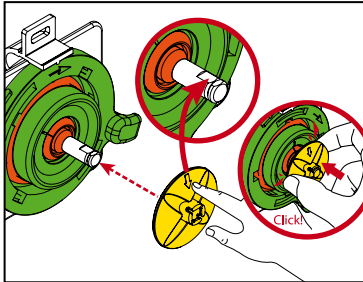

Fig.15
2. Replace the mounting plate on the mixer motor and shaft. Make sure to align the arrow on the whipper towards the flat surface on the shaft. Press the whipper onto the shaft until it "clicks" into position. (See Fig.15)